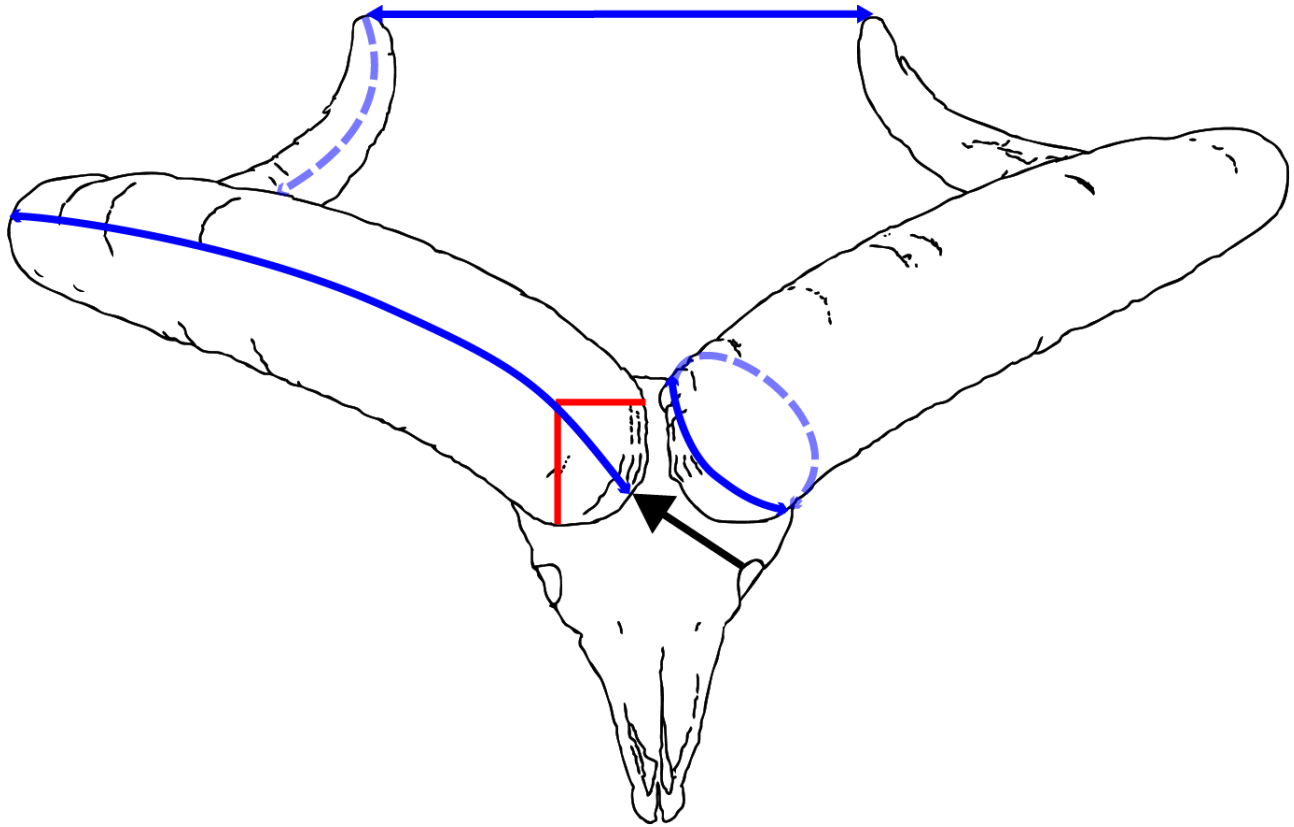

Figure 3, Dagestan Tur
Length. (Dagestan Tur) First the starting point on the horn base for the length measurement needs to be established. Do this by laying the tape measure end on the center of the eye socket; now find the shortest distance from the center of the eye socket to the edge of the horn base on the opposite side of the skull, mark it with a pencil and start the length measurement here. (Figure 3) Do not measure from the lowest point of the horn near the eye socket on the same side of the skull, and do not measure from the back side of the horn (towards the back of the skull). (Figure 3, red lines). Keep following the grain of the horn, initially the tape will be on the center front and then gradually arrive on the center outside of the horn, from here you go in a straight line to the horn tip. If the tip is broken, card off. (See General Instructions.)
With most Dagestan or Eastern turs the arc of the length measurement will more or less form a half-moon shape. However, with a truly magnificent trophy, the horn tips will point upward. To measure the length of the horn of such a tur, start the tape on the center front of the horn in line with the shortest distance to the eye socket on the opposite side of the skull, curve over the horn, arrive on the outside, go under the horn, and eventually point the tape upwards. For such an animal it is a must to mark the way points with paper masking tape or a pencil before starting to measure. (Figure 3)
2. Circumference. Measure the base of each horn. (Figure 3) The tape must form a continuous loop and be at a 90-degree angle to axis to the horn. Do not measure anything but horn material—no hair, taxidermist filler, etc.—and do not press the tape into depressions. In most cases with a barbary sheep (Figure 1) this will mean the tape will be a distance away from the furthest edges/lobes of the horn base in order to keep a 90-degree angle to the axis of the horn; typically the tape will be closer to the base edges with the blue sheep and the Dagestan tur. (Figures 2 and 3)
3. Tip to Tip. Measure the tip-to-tip value in a straight line from the center of the left horn tip to the center of the right horn tip. This is a required measurement to check for abnormal horn configurations. (E) This is a required measurement. (Figure 3)